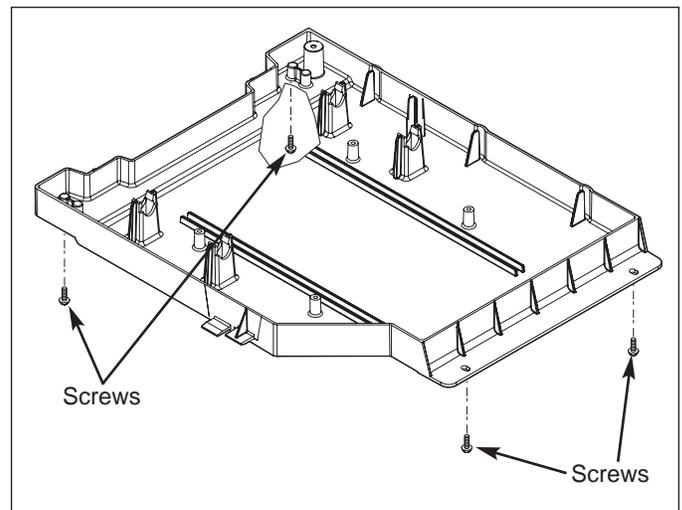

Figure 5-28. Drain Pan Removal
4. Using a short phillips head screwdriver, or socket with a phillips head bit, extract the four screws securing the drain pan to the bottom of the unit frame. (See Figure 5-28)